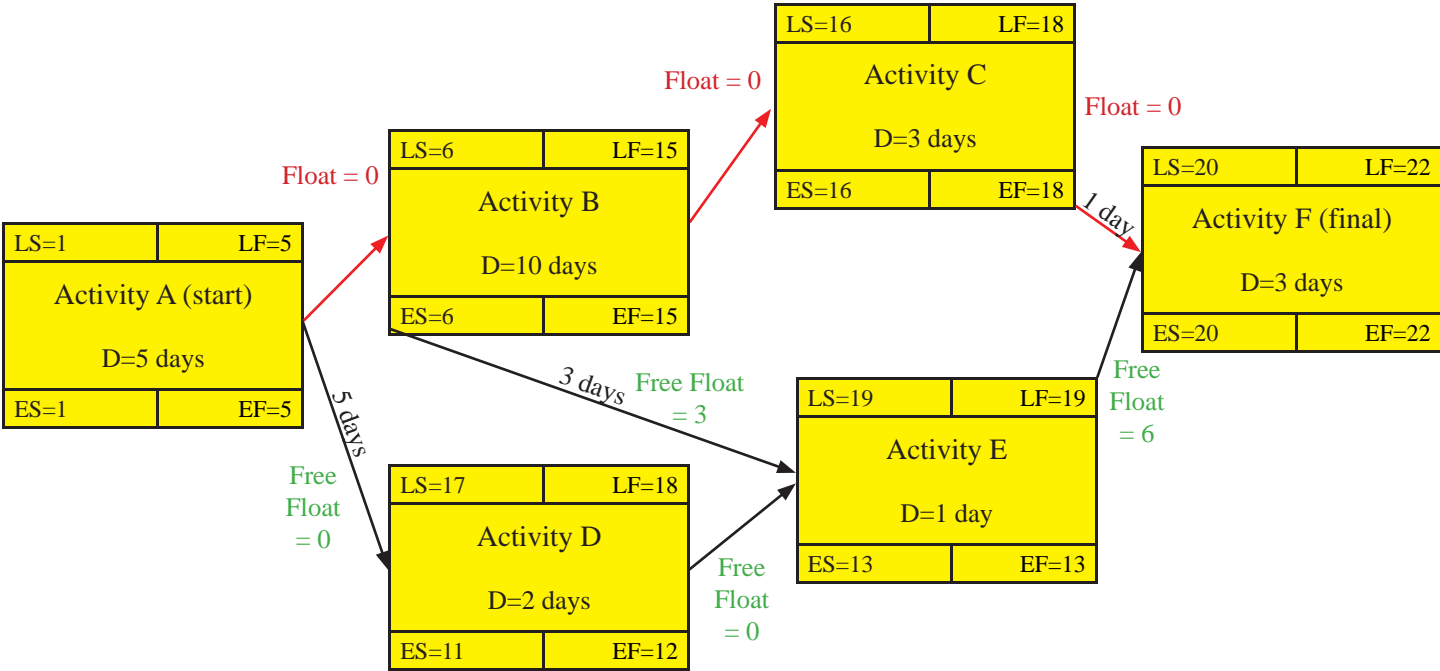

Figure 3-3 CPM Schedule
**Figure 3-3** is a sample CPM schedule, starting with *Activity A* and ending with *Activity F*. Path ABCF is the most critical path with a total duration of 21 days and a total float of 0 days. These results state that if there is a delay on any activity on this path, project duration will be longer than 21 days, thereby delaying project completion.